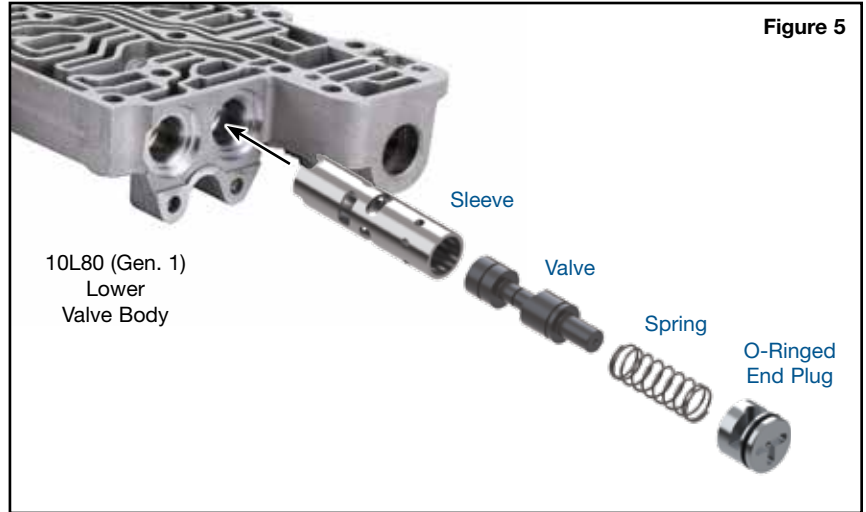

Figure 5
- d. Install Sonnax sleeve and valve followed by Sonnax spring (**Figure 5**).
- e. Install Sonnax O-ring into shallow groove of Sonnax end plug. Lubricate with Sonnax Slippery Stick **O-LUBE** and roll on bench to size the O-ring into the groove (**Figure 5**).